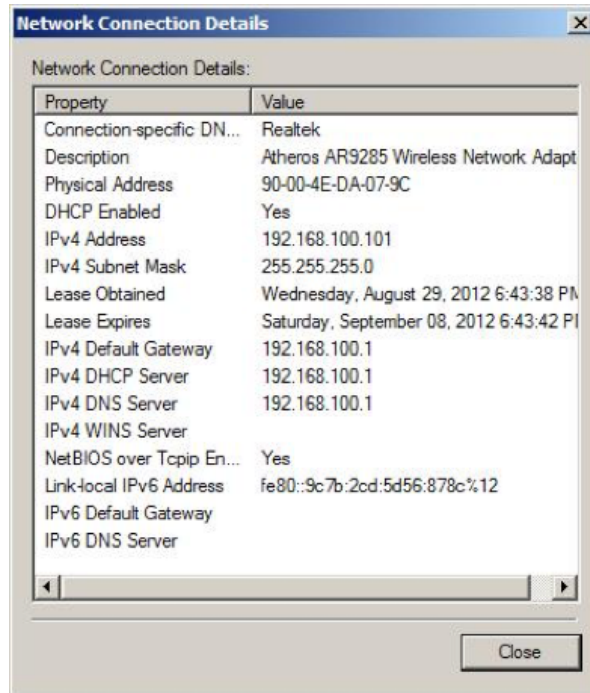

Figure 76: Network Connection Details Window
11. Click the **Details** button to display the *Network Connection Details* window. (Figure 76)
12. Verify the *Ipv4 Address* of the Windows device, which should be either **192.168.100.100** or **192.168.100.101**. For example, the Windows device IP address is **192.168.100.101**. (Figure 76)
15. Enter the analyzer’s address in the VNC server address field (**192.168.100.100** or **192.168.100.101**), from Figure 76.